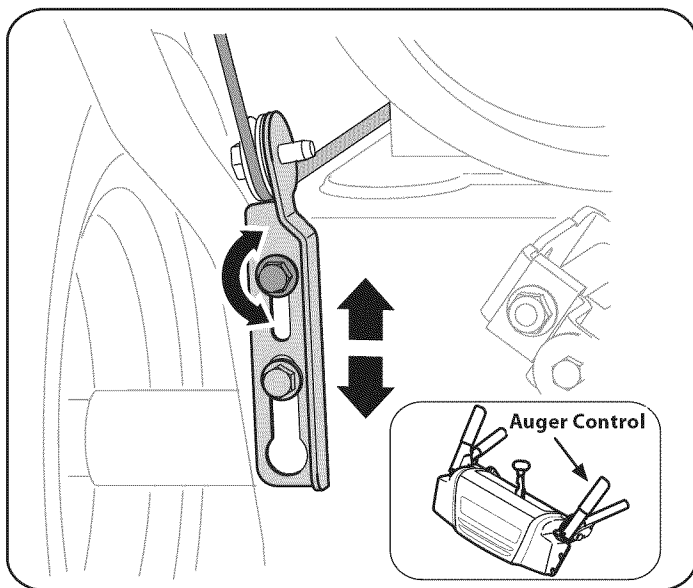

Figure 11
1. The auger control is located on the left handle. See Figure 11 inset. When the auger control is released and in the disengaged “up” position, the cable should have very little slack. It should NOT be tight.
4. Allow the auger to remain engaged for approximately ten (10) seconds before releasing the auger control. Repeat this several times.
7. To readjust the control cable, loosen the upper hex bolt on the auger cable bracket. See Figure 11.